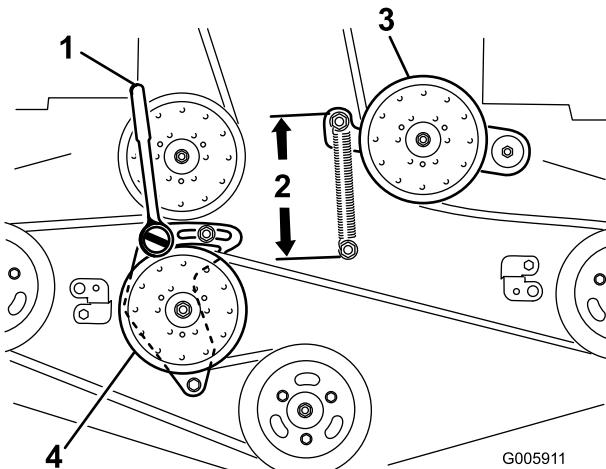

Figure 51
4. Loosen the fixed idler arm and adjust it to relieve belt tension (Figure 51).
7. Insert a ratchet with a short extension or a breaker bar into the square hole in the fixed idler arm (Figure 51).
9. To increase the belt tension, rotate the ratchet or breaker bar counterclockwise to move the fixed idler arm until there is 6-1/2 inches (16.5 cm) between the spring hooks (Figure 51).